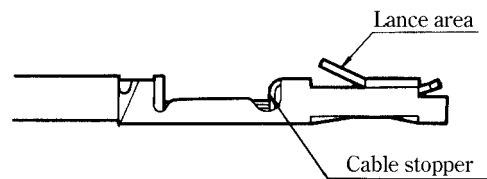
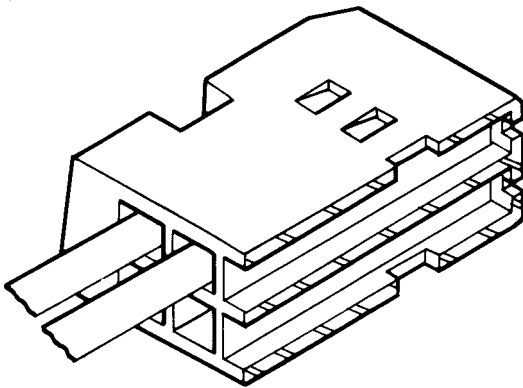

Figure 2
Figure 3
- (2) After connection as shown Figure 2, check the contact direction, and insert the contact as shown Figures 3 and 4. Slightly pull the cable, and check whether the contact lance position is firmly fixed to the insulation case, as shown in the area (A).